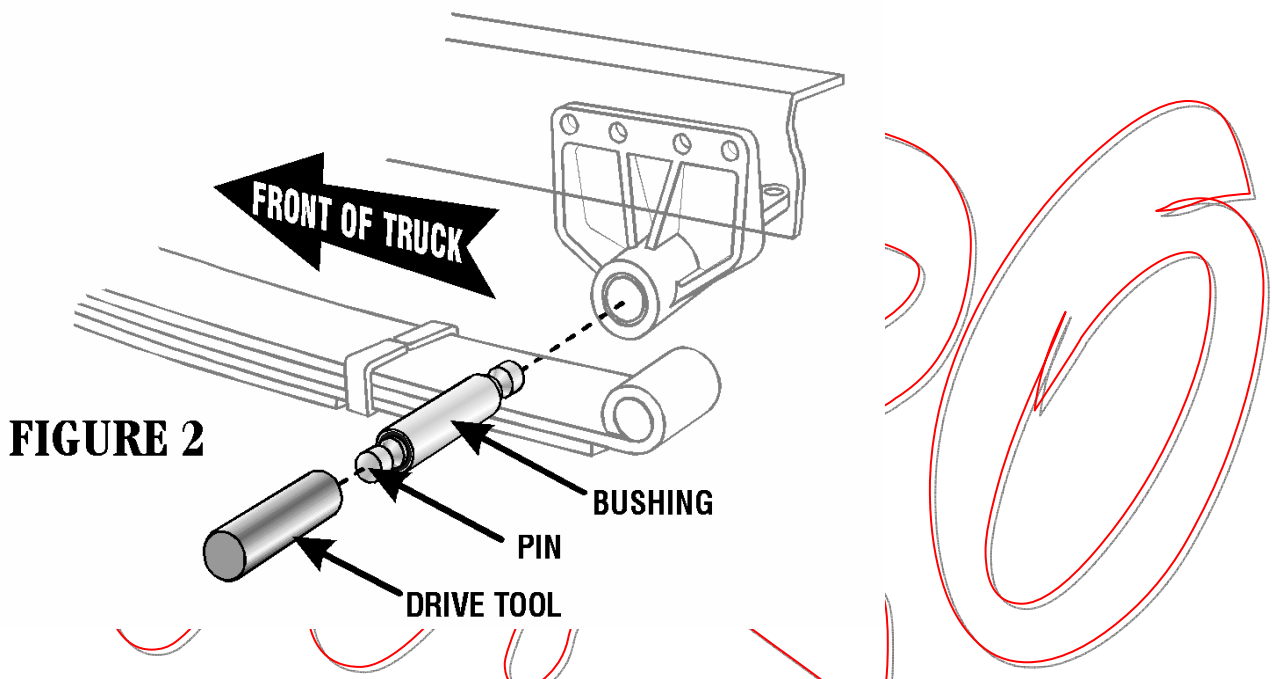

FIGURE 2
3. Coat bushing with white lithium grease or an anti-seize compound (see Figure 2).
4. Insert the *URO*® Shackle Bushing Pin into the Bushing Drive Tool, insert end with locator hole at the end of the pin (see Figure2).
5. Align *URO*® Shackle Bushing with bore of frame hanger bracket. Using an air impact hammer and Bushing Drive Tool, press Bushing and Pin into frame hanger bracket together. In some cases, you may want to remove the hanger from the frame and press the *URO*® Shackle Bushing with a Hydraulic Press (see Figure 2).